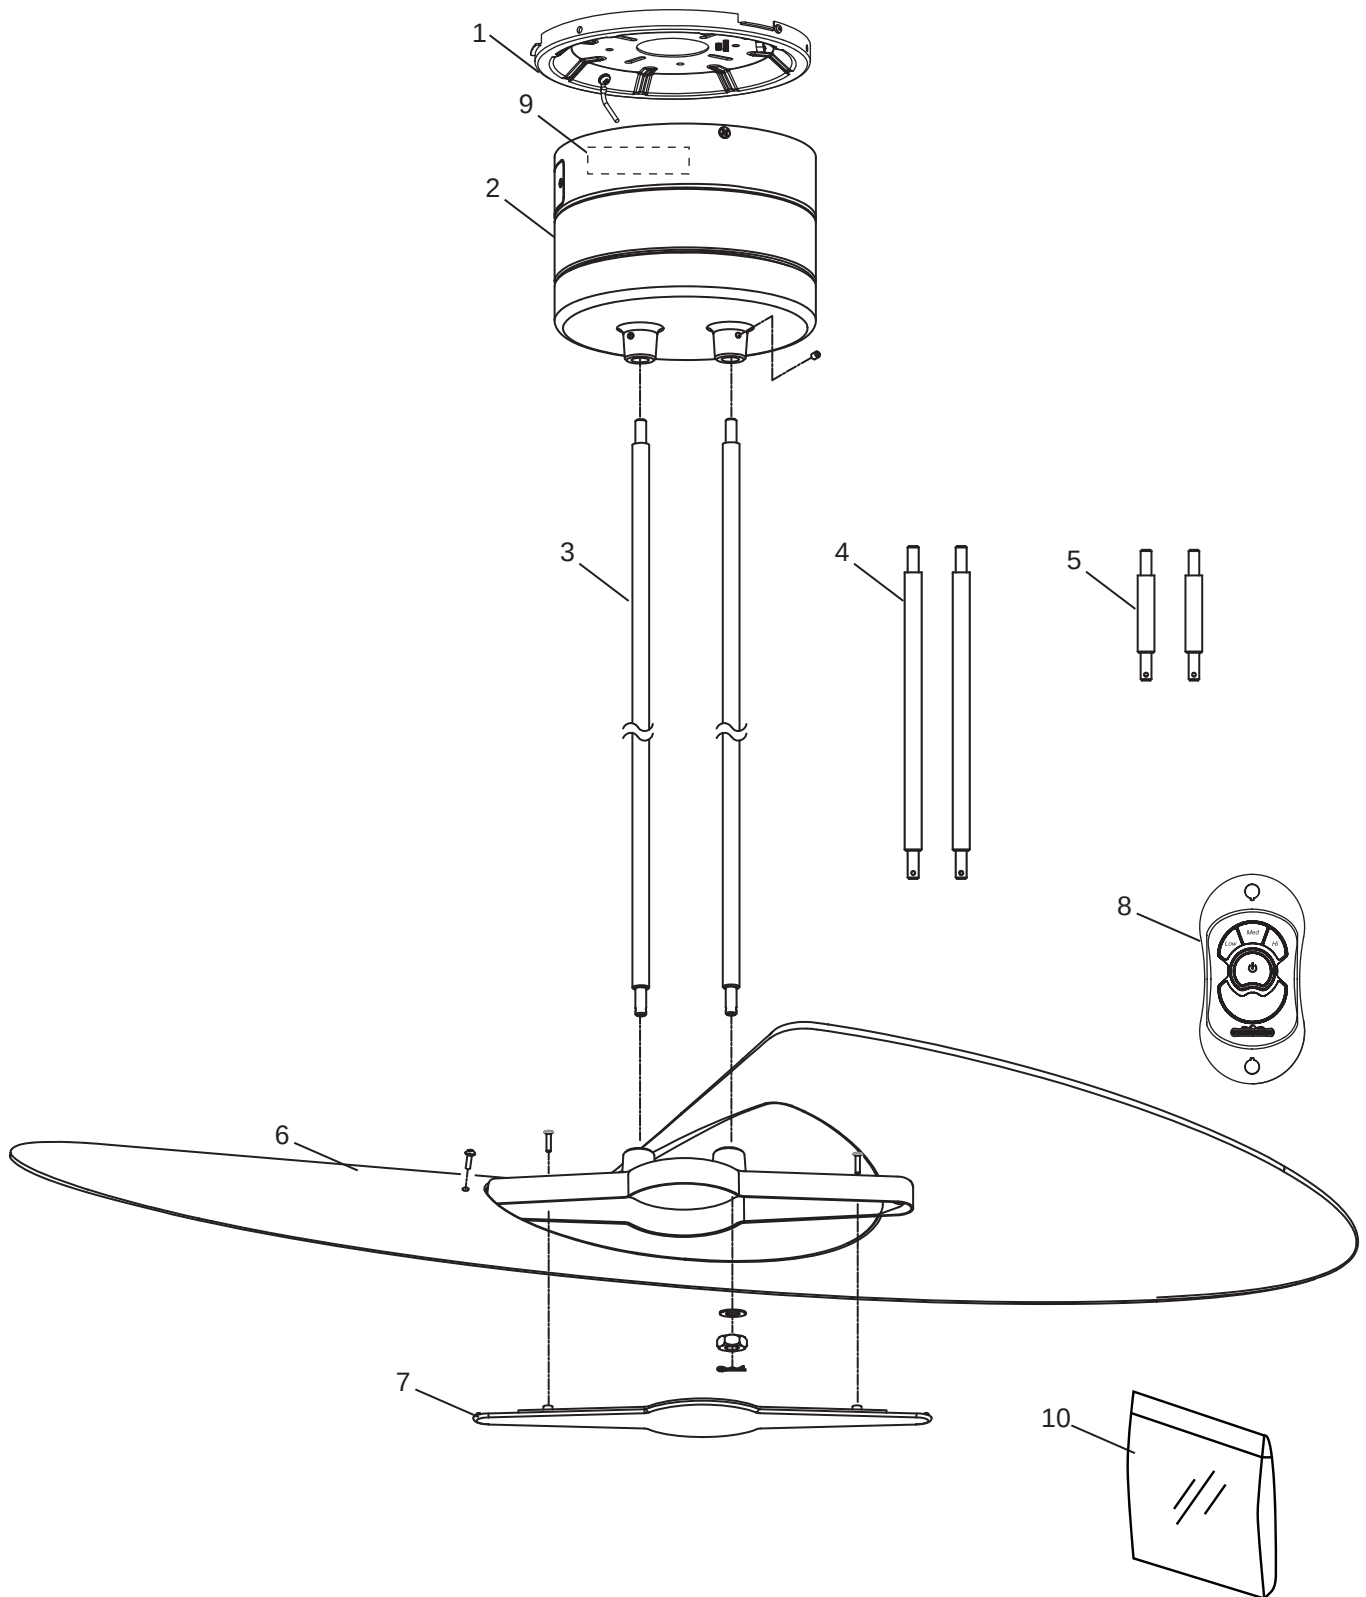

Figure 1
1. Drill the two 1/4" holes in wall and use the M6 plastic anchor pushed into the holes. Install the control bracket with two #3- 1" self tap screws. Push the four plastic plug to cover the screw holes. (Including in the control). (Figure 1)